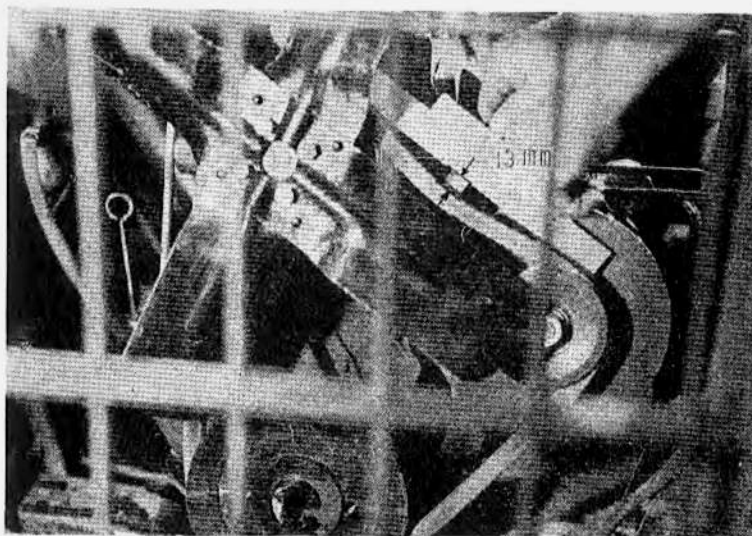

Figure 44 – Fan Belt Adjustment
- (8) Replace fan belt. The belt should be adjusted to give about 13 mm deflection at this point (Fig. 44).
- (9) Replace radiator.
- (10) Replace radiator inlet and outlet hoses, refill cooling system.
- (11) Replace radiator grille and side wind guides as an assembly.